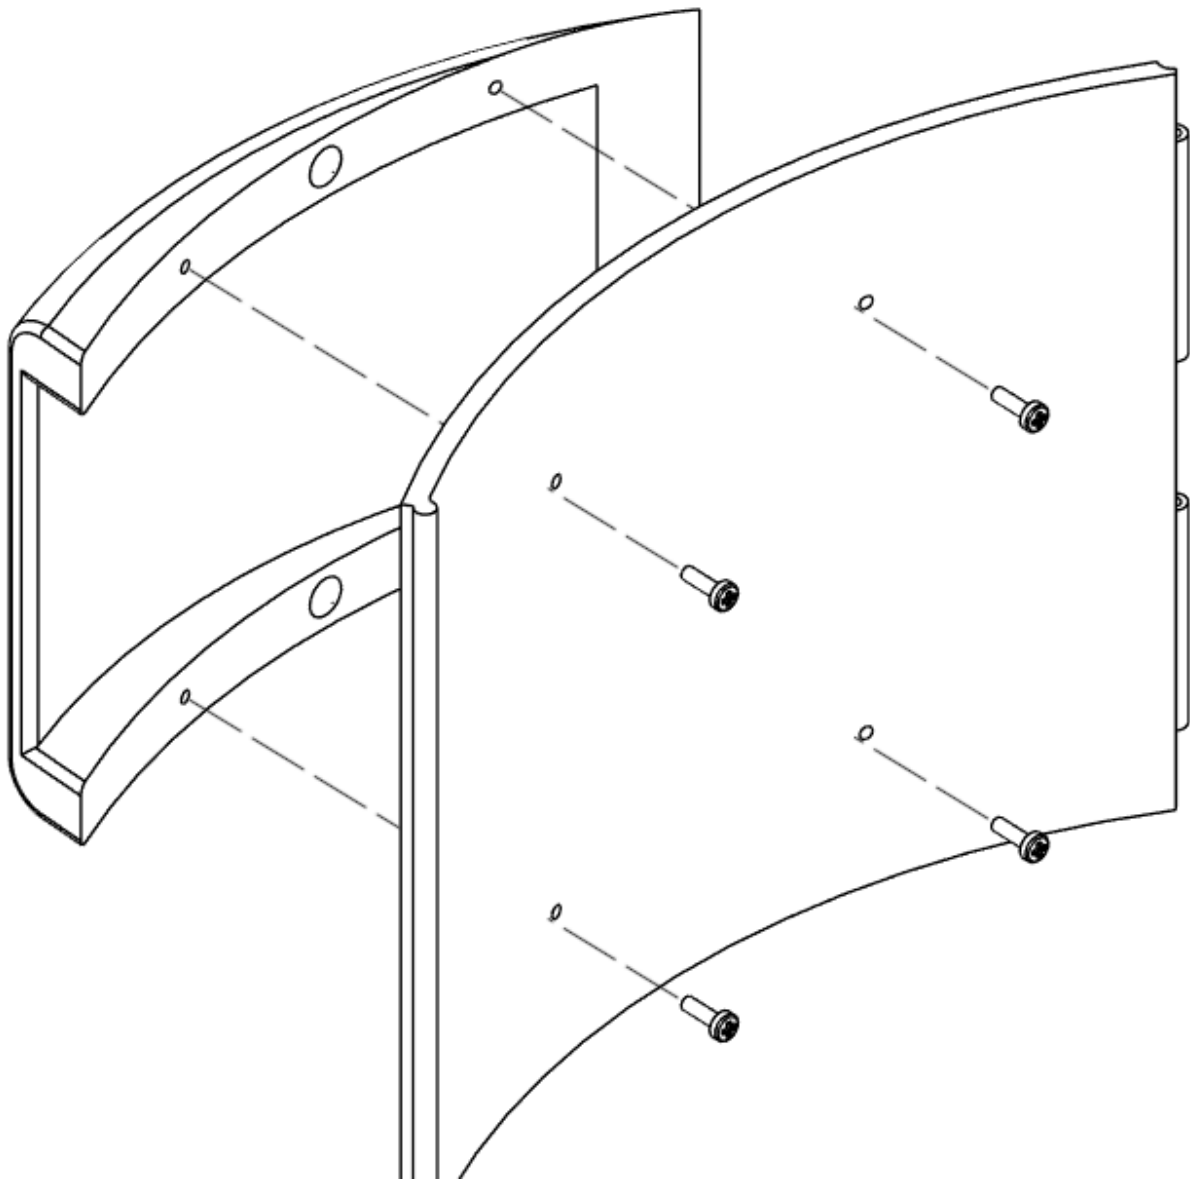
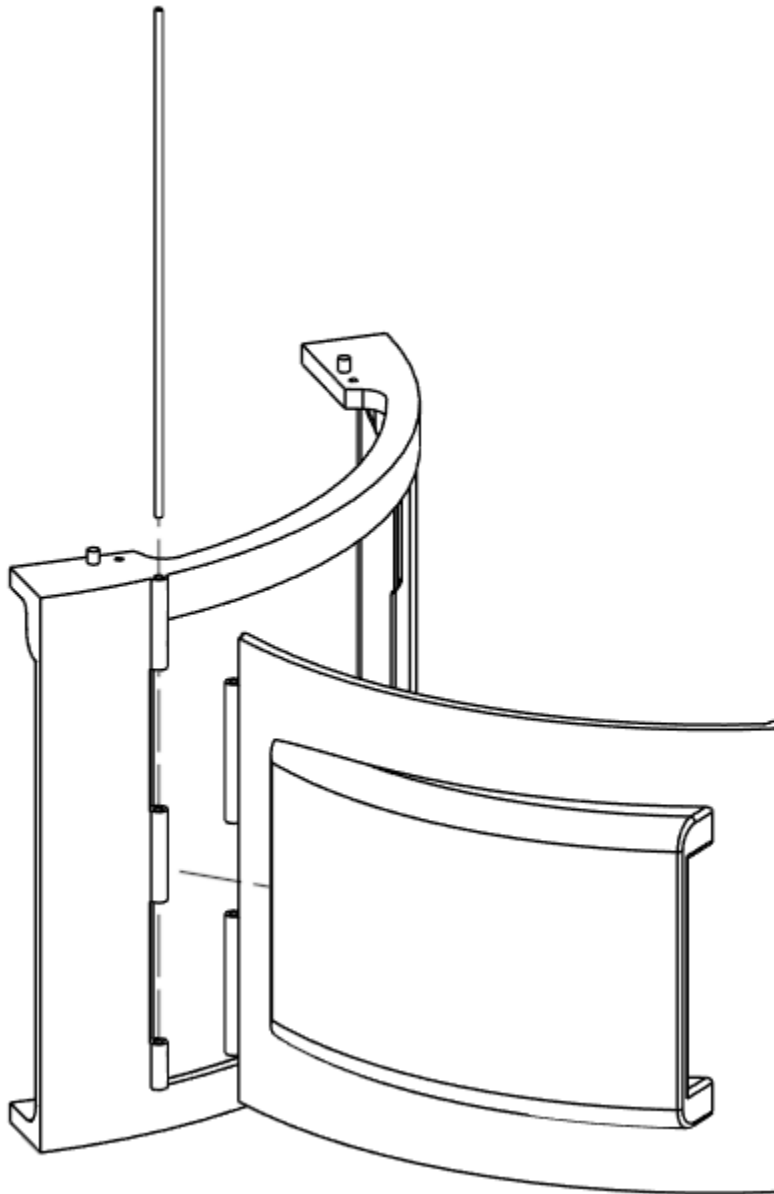

Figure 0.1 - Door Handle Assembly
Figure 0.2 - Door Handle Assembly
1. Fasten Door Handle to Door as shown in Figure 0.1
- a. (4) M3x10mm
- b. Repeat for (3) other Doors
2. Assemble hinge mechanism as shown in Figure 0.2
- a. Repeat for (3) other Wall Assemblies